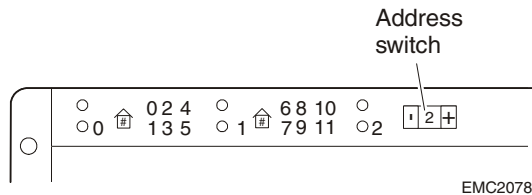

Figure 4 Changing the EA on a DAE
12. If necessary, (re-)set the DAE Enclosure Addresses (EAs). On Bus 0, the DPE has a fixed EA of 0, which cannot be changed. Set the first DAE on Bus 0 to EA 1, the next to EA 2, and so on. On Bus 1, set the first DAE to EA 0, the second to 1, and so on. See Figure 4, Figure 5, and Figure 6 as necessary.